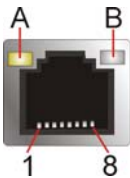

Figure 3-26: Ethernet Connector
- CN Pinouts:** See Figure 3-26 and Table 3-26